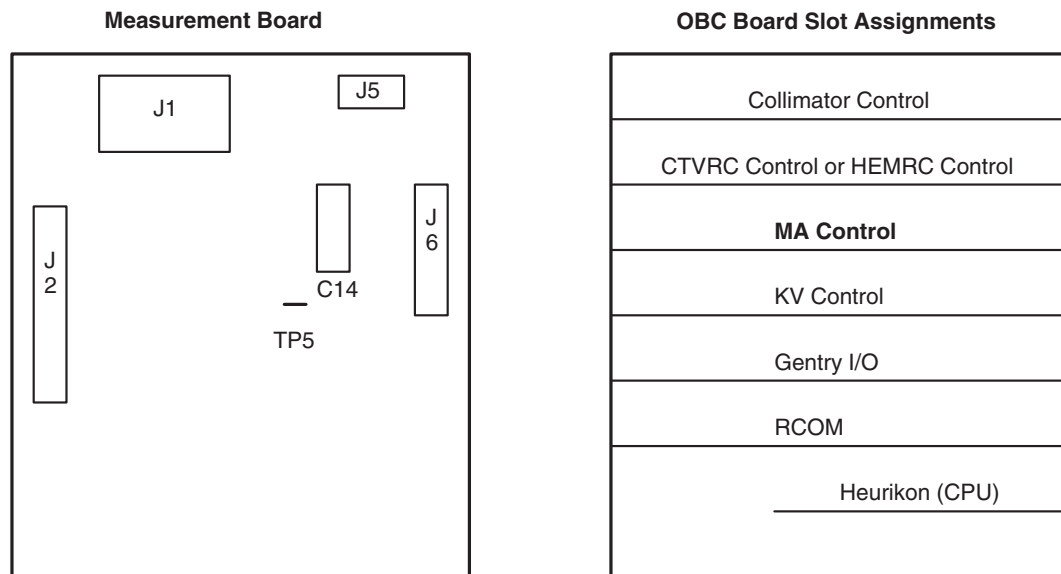

Figure 9-7 Tank Measurement board
- 5.) Locate the Anode HV Tank Measurement board (Figure 9-7). If TP5 has a wire from the harness, you don't need the following test lead. If TP5 does NOT have a wire from the harness, install a test lead as follows:
- c.) Connect the other end to TP5 on the Anode Tank Measurement board (Figure 9-7).
- 10.) Locate the Cathode HV Tank Measurement board (Figure 9-7). If TP5 has a wire from the harness, you don't need the following test lead. If TP5 does NOT have a wire from the harness, install a test lead as follows: